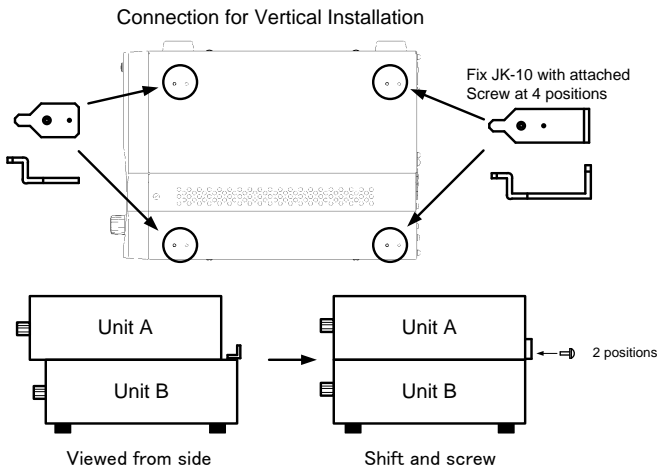

Fig. 6-2 Connection for Vertical Installation
- (1) Remove the rubber shoes from the bottom of unit A. (Keep the removed rubber shoes and screws with care not to lose them.)
- (2) Fix the joint kit (JK-10) to the top panel of the unit B with the flat countersunk head screws supplied with the kit. (Four positions)
- (3) Place the units as shown in Fig. 6-2 below so that the projections of the JK-10 on the unit B are inserted in the holes in the unit A, from which the rubber shoes are removed above.
- (4) Shift the unit A, and fix the rear panel to the brackets of the joint kit (JK-10) firmly with the screw with washer supplied with the kit. (Two positions)